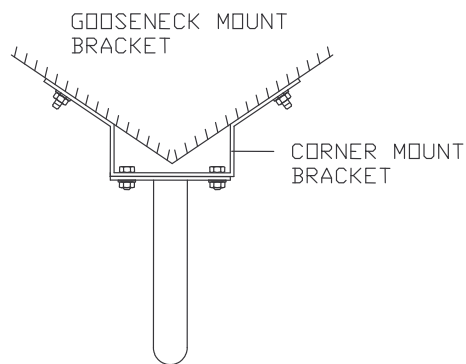
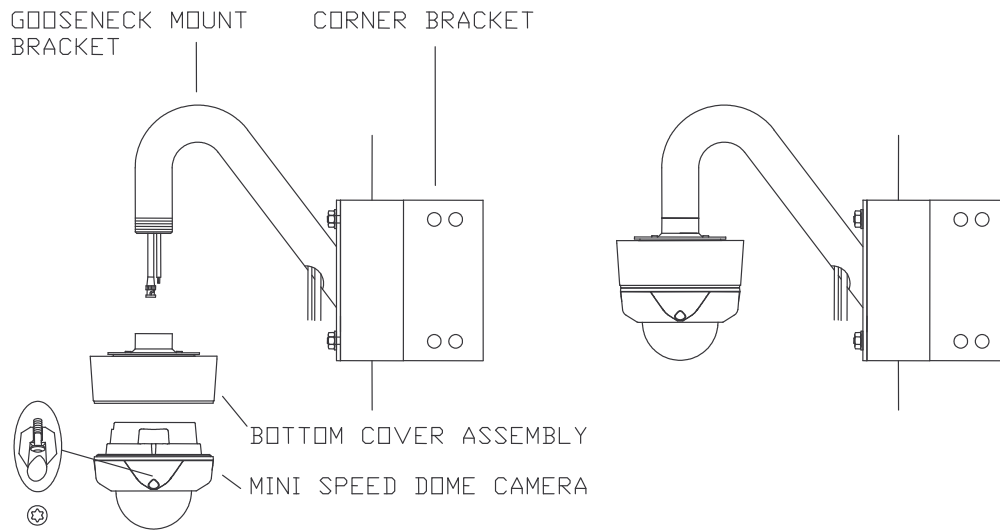

FIG.23
FIG.24
5. Screw the set anchor bolt of the bracket by nut on the wall. (FIG.23)
6. After driving a bottom cover assembly to gooseneck mount bracket, as shown on FIG23, assemble mini PTZ with bottom cover assembly. (FIG.24)